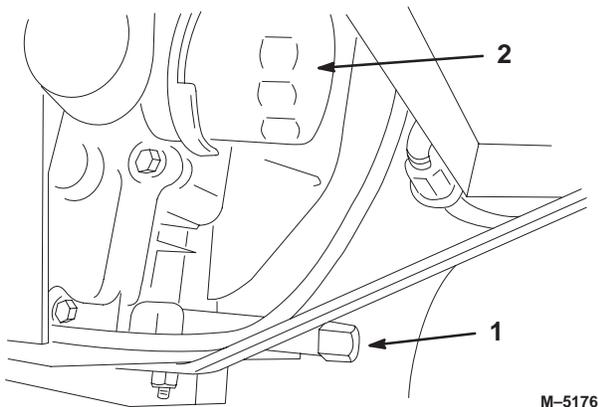

Figure 18
- Place a pan below the oil drain. Remove the oil drain plug (Fig. 18).
- Remove the old filter and wipe the filter adapter (Fig. 18 and 19) gasket surface.